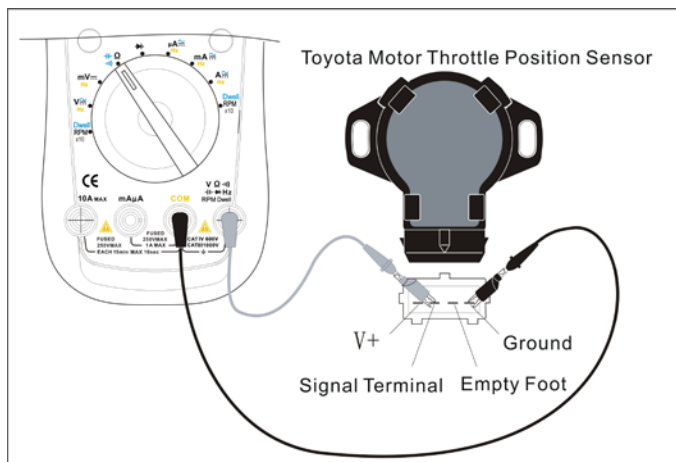

Figure 24
- (1) The same as in the resistance testing method.
- (2) When the general temperature of a heating sensor rises, its resistance will drop. The thermal resistance of the temperature sensor of the automotive engine is generally less than 300 z.
**3. Position Sensor (see figure 24)**